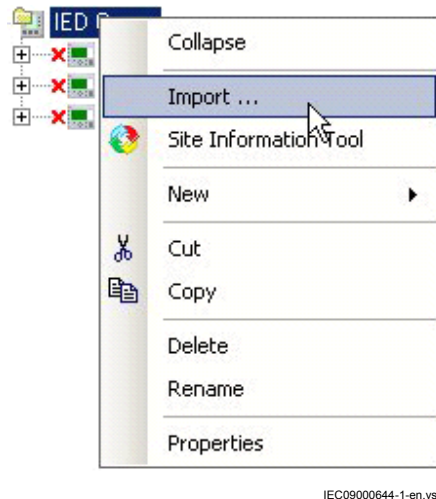

Figure 20: Import an IED from the context menu
1. Right-click the bay and select *Import ...* to select the IED configuration file (*.pcmi) that was downloaded from the ABB website, see Figure 20.